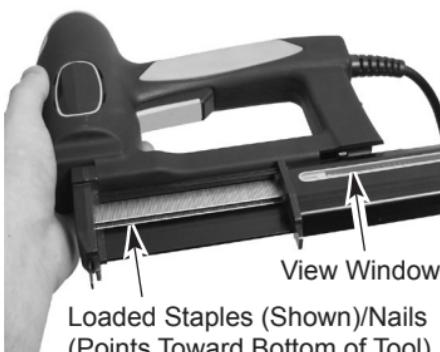

Figure 3
3. Lay tool on its side with view window facing upward (see Figure 3).
4. Load staples/nails on track (see Figure 3). Make sure staples/nails are forward in the magazine and staple/nail points are toward bottom of tool.